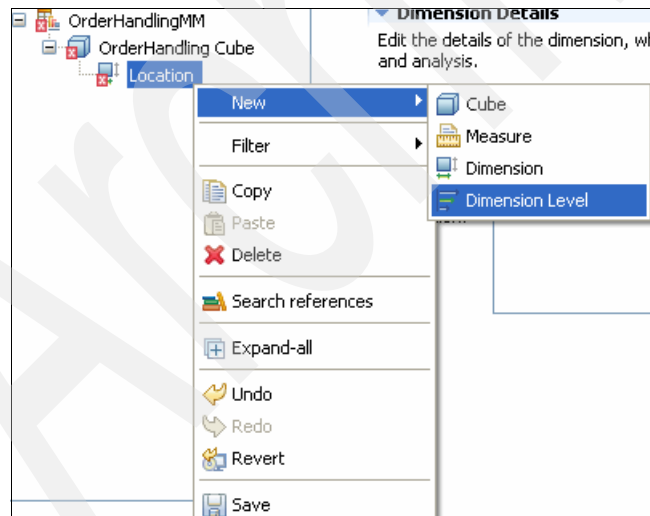

Figure 8-114 Selecting the options to add a dimension level
4. Right-click **Location** and select **New** → **Dimension Level** to add a dimension level (Figure 8-114).